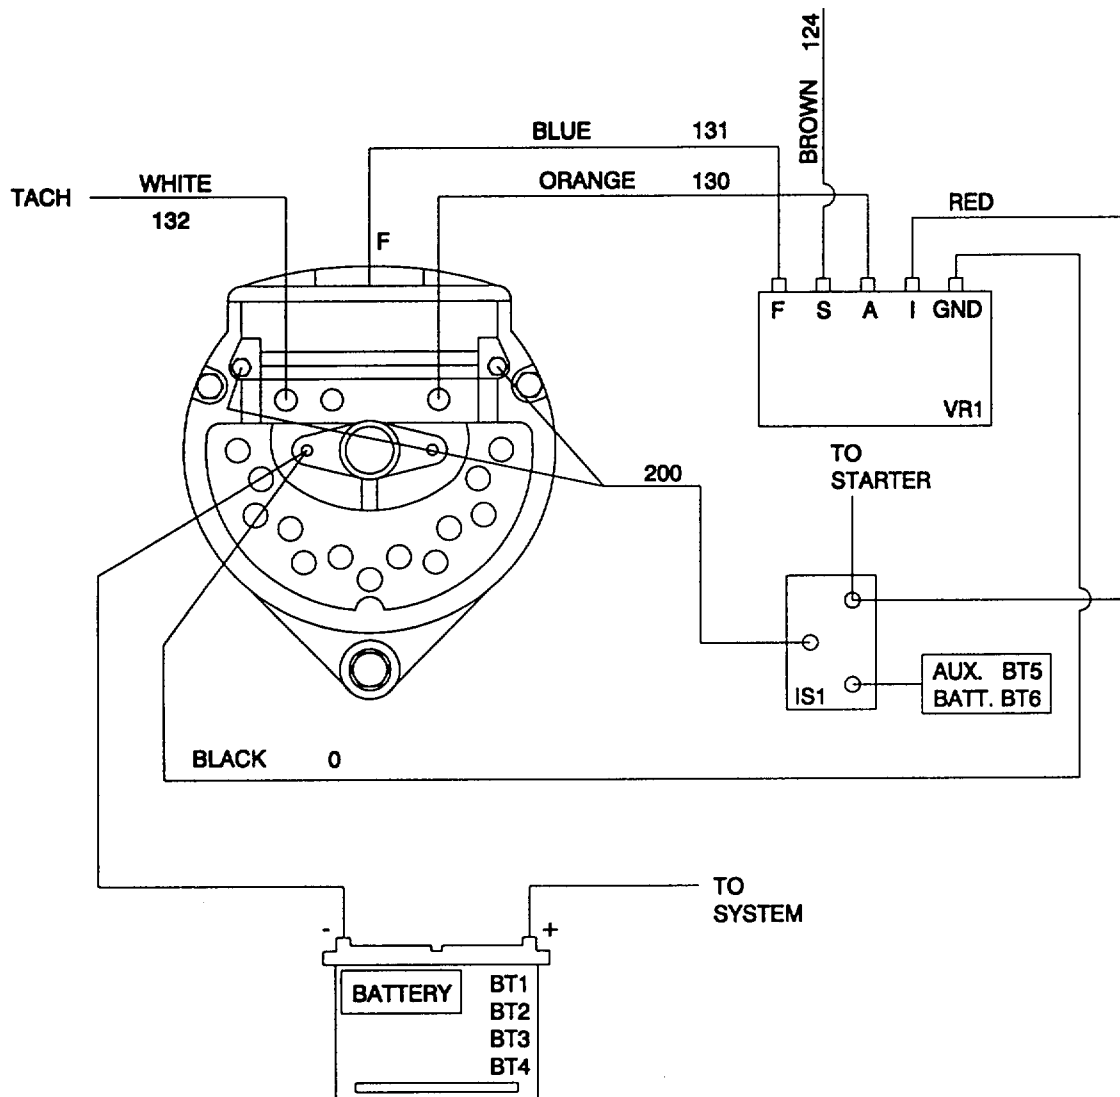

Figure 3-15. Voltage Regulator, Pump-Jet Directional/Auxiliary Junction Box "A9", Test.
a. Test. (figure 3-15)
- (1) Disconnect negative cable from battery.
- (2) Remove factory alternator. Tape original battery output cable and do not use.
- (3) Install alternator.